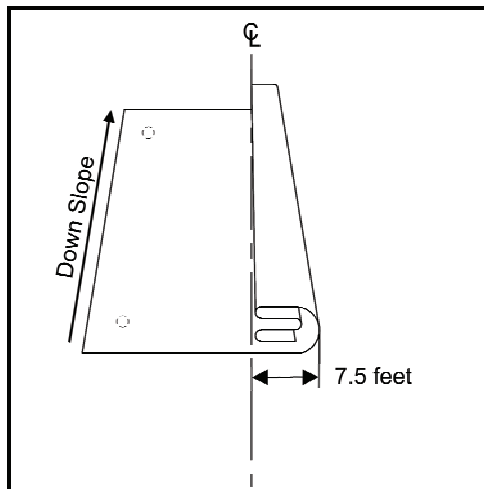

Figure 6. Half the tank folded.
4. Repeat steps 1-4 for the opposite edge (Figure 6).